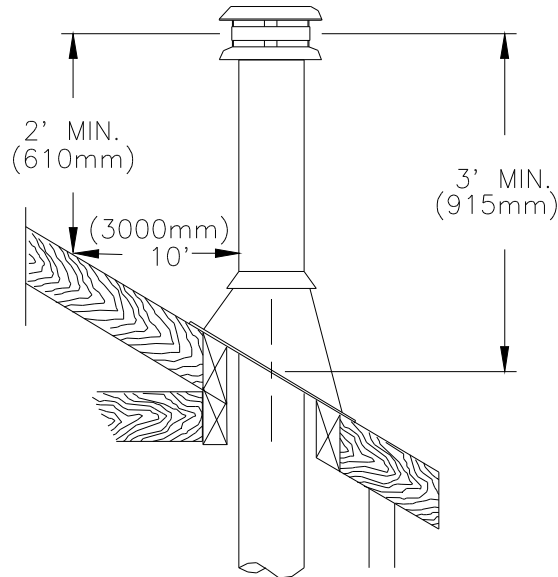

Figure 12
8. The chimney must extend at least 3 ft. (915 mm) above its point of contact with the roof and at least 2 ft. (610 mm) higher than any wall, roof or building within 10 ft. (3 m) of it (see Figure 12).